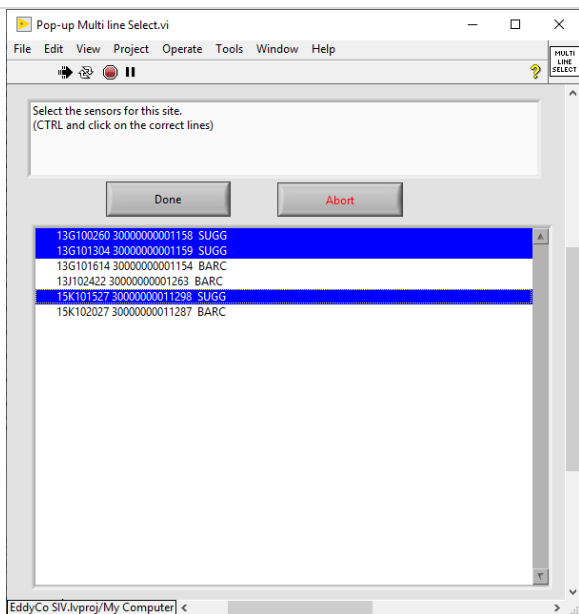

Figure 169. For the First Site, Select the Files for the Site You Identified in Step 5
**STEP 7.1 | For Multi-Site Selection Only:** Select the site files that match with the site selected in Step 5. Hold the **“Ctrl”** button on your keyboard and use your cursor to select the data files for the first site (Figure 169).